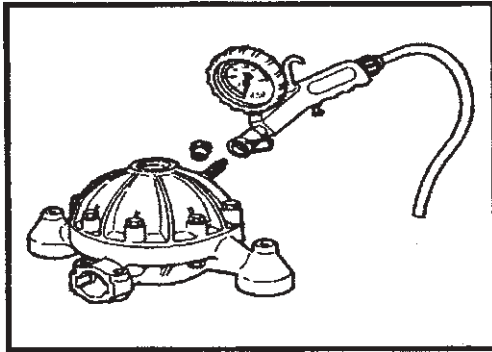

Figure 3
2. Check the air pressure in the pressure accumulator if applicable (refer to Figure 3), depending on the range of pressure used in the pump. Pressurize according to Table A. The pressure may be checked and changed accordingly using an air pump.